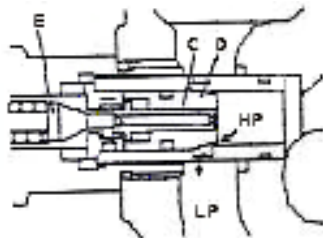

Figure 2-18
(2) Action of safety overflow valve (Figure 2-18)
dangers if the valve rod is tilted due to misuse. With this self-locking valve, when forklift motor stops working, the main frame will not tilt forward even if the control lever is shoved. Oil flow direction when valve core is pulled out is the same with that shown in Figure 2-18, at which time the main frame is tilting backwards.